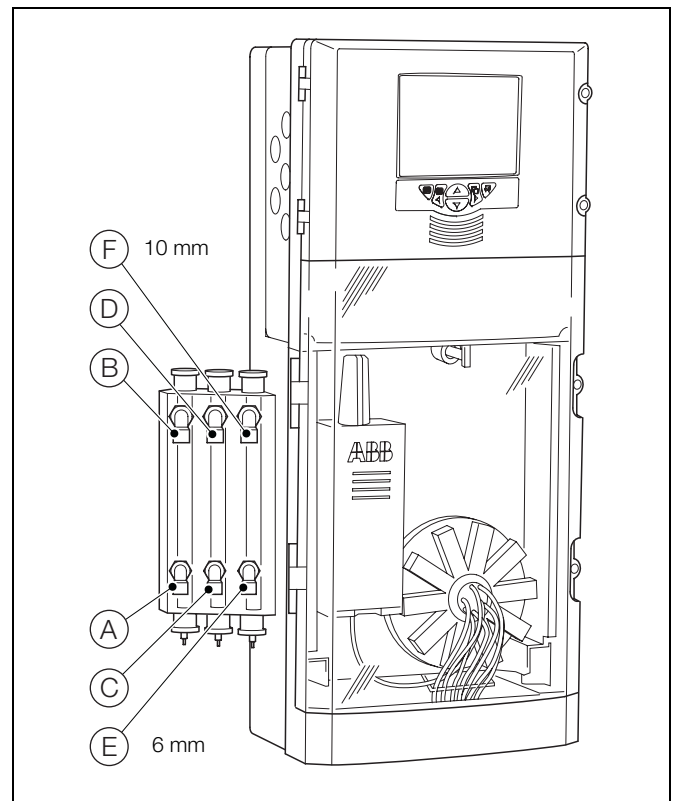

Fig. 3.10 Connecting the Sample Inlet and Drain Line(s) – Multi-stream
The sample drain line(s) (B), (D) and (F) (see Fig. 3.10) must be routed to maintain a gravity-fed drain.